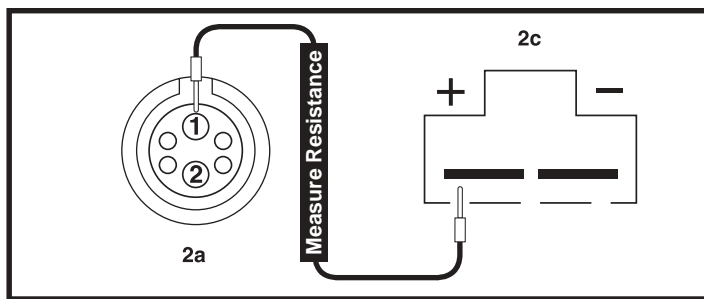

Figure 28. Connectors 2a and 2c
17. Measure resistance from pin 1 on connector 2c to pin 1 on connector 2a. **See figure 28.**